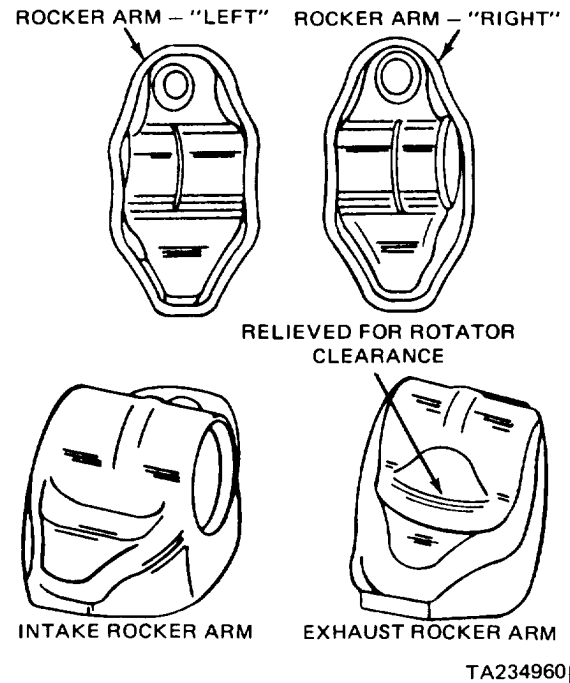
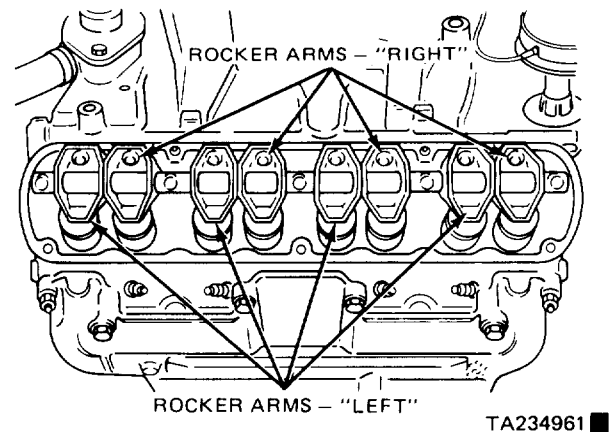

Figure 3-1. Intake and Exhaust Rocker Arm Identification.
Figure 3-2. Proper Rocker Arm Location on Shaft.
b. Assembly and Installation. Rocker arms are reassembled on the shaft in groups of two. See figure 3-1 for identification of left-side and right-side rocker arms. Position the arms on the shaft as shown in figure 3-2.
Be sure to install the long, stamped steel retainers in the number two and four positions (see figure 3-2). Tighten them to 18 ft-lbs.